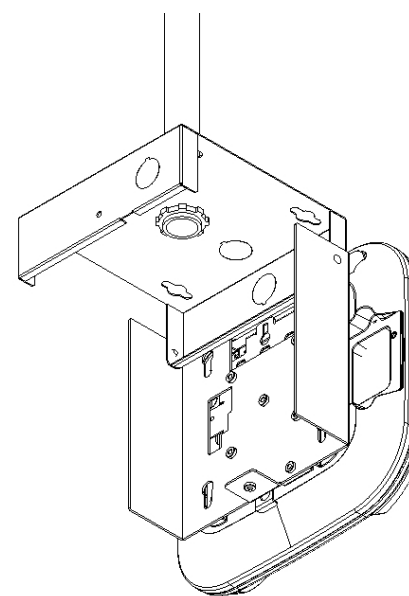

Figure 4 - Hanging Conduit Installation
Step 3a (**Hanging Conduit**) – The base can be attached directly to a conduit pipe. Use the center knockout on the base and a cable clamp to secure the mount to the conduit (Ref. Figure 4).